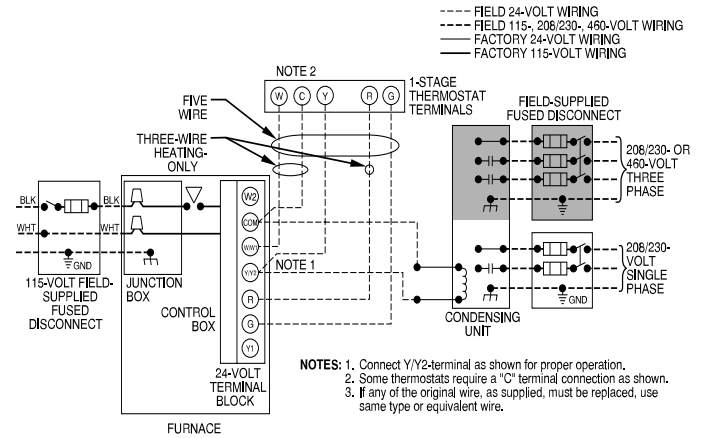

Fig. 32 – Typical Field Wiring Diagram
See Fig. 32 for field wiring diagram showing typical field 115V wiring. Check all factory and field electrical connections for tightness.
6. Connect power cord power and neutral leads to furnace power leads as shown in Fig. 32.